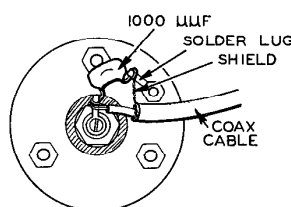

Figure 8A
**IMPORTANT NOTE:** To make a loaded whip antenna present a 50  $\Omega$  load to match the coax cable on 75 meters, a 1000  $\mu\text{f}$  mica capacitor must be connected between the base of the antenna and ground. This can be done inside the automobile body as shown in Figure 8A, or between the antenna and one of the mounting screws, using two control solder lugs as shown in Figure 8B. The necessary parts are supplied with this kit. Connect a SWR bridge to the antenna and make sure the SWR is below 1.5 to 1. Power for operating the bridge may be obtained by carrier output in the TUNE position of the FUNCTION switch.